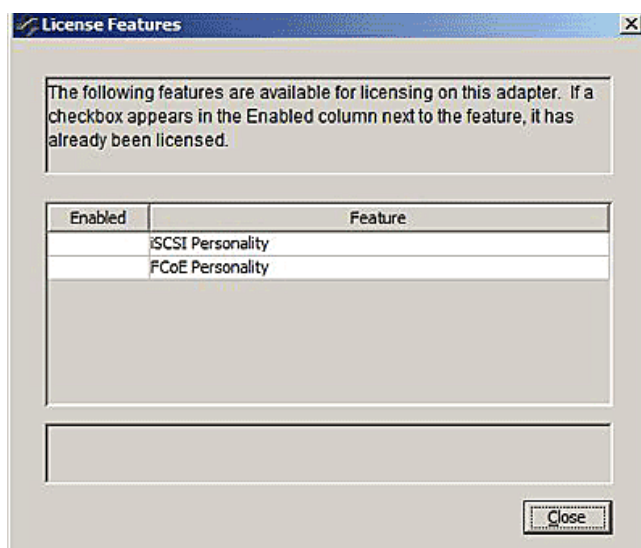

Figure 7-11 Licensed Features Window
2. On the Adapter Information tab, click **Show License Features**. The License Features window appears (Figure 7-11 on page 81). An X in the Enabled column indicates that the capability is licensed and enabled for that adapter.